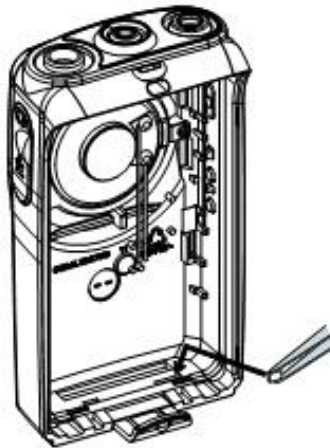

Figure 2-11
7. With the battery latch placed on the housing, push the shaft in the housing slot to the left (see “Figure 2-11”).
8. Place the small latch pad onto the right slot space (see “Figure 2-11”).